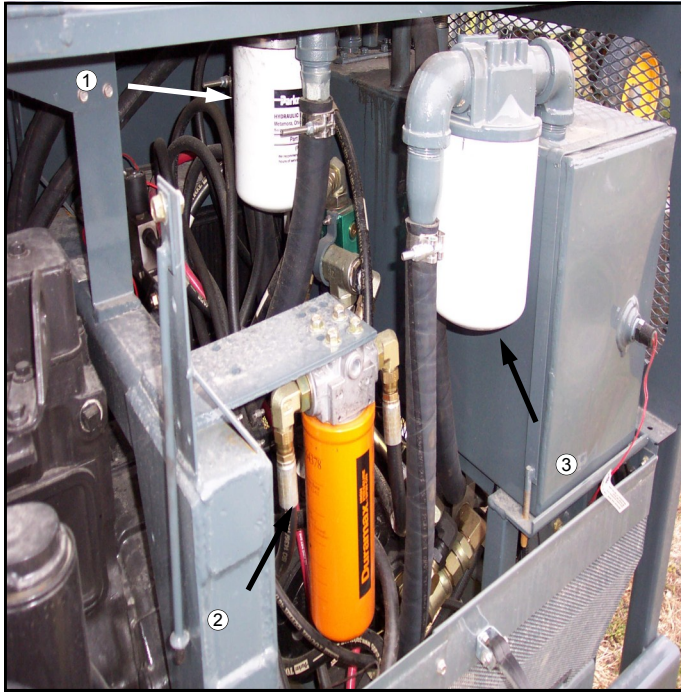

FIG 7.24
Remove and install a new 10 Micron rated suction filter (fig. 7.24, item 3) at the end of the first 50 hours of use; subsequently, replace the filter every 250 hours, or once a year, whichever comes first.
Remove and install a new 4 Micron rated charge pressure filter (fig. 7.24, item 2) at the end of the first 50 hours of use; subsequently, replace the filter every 250 hours, or once a year, whichever comes first.
Remove and install a new 10 Micron rated return filter (fig. 7.24, item 1) at the end of the first 50 hours of use; subsequently, replace the filter every 250 hours, or once a year, whichever comes first.